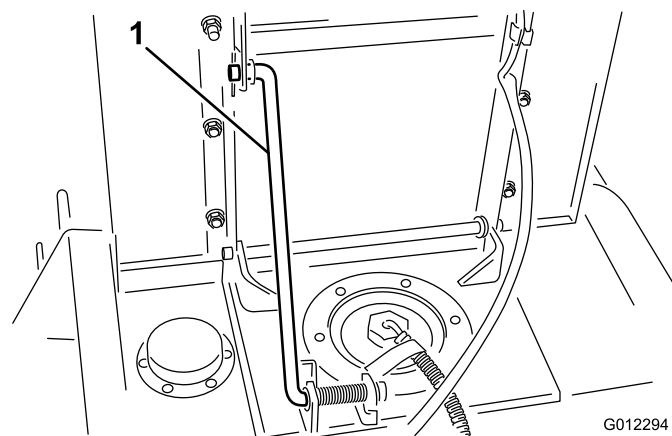

Figure 20
2. Raise the seat and support it in an upright position with the seat support rod (Figure 20).